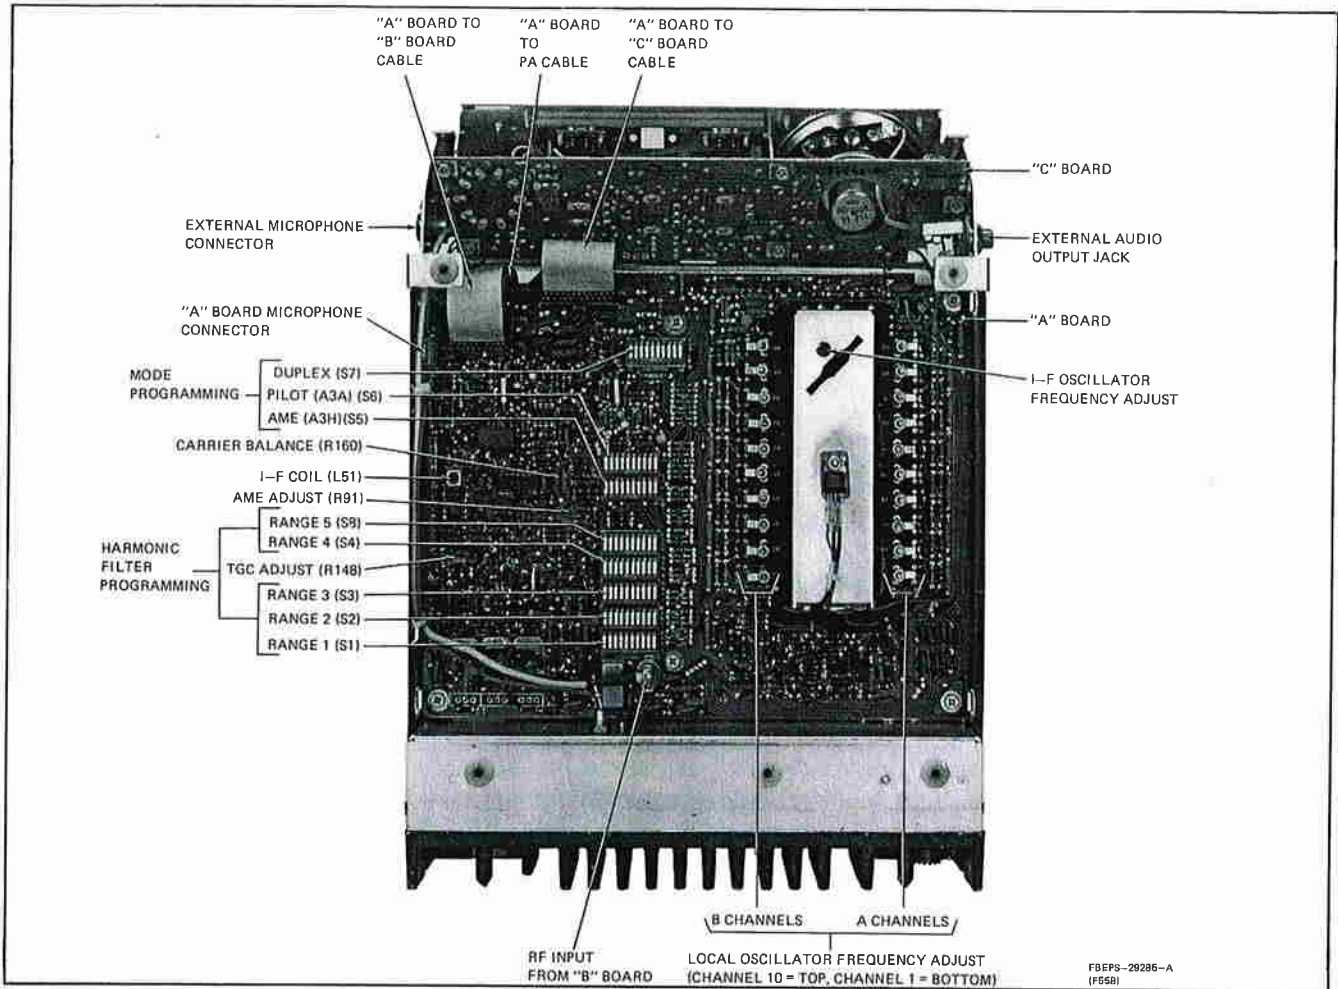

Figure 1. "A" Board Adjustments
Step 3. Remove only the plastic access cap from the oven insulating cover, and using an insulated tuning tool adjust the piston trimmer capacitor for a reading of 11.400000 MHz \pm 2 Hz (see Figure 1).
(Refer to Figure 1 and 5 for location details.)